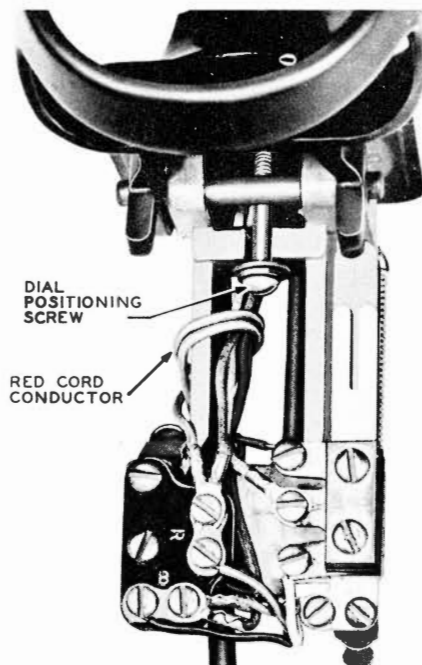

Fig. 17 — Wiring of Hangup-Type Hand Telephone Set
6.08 When terminating inside wire, leave sufficient slack to enable switchhook assembly to be reassembled in housing. Fig. 17 shows typical wiring of hangup-type hand telephone set.